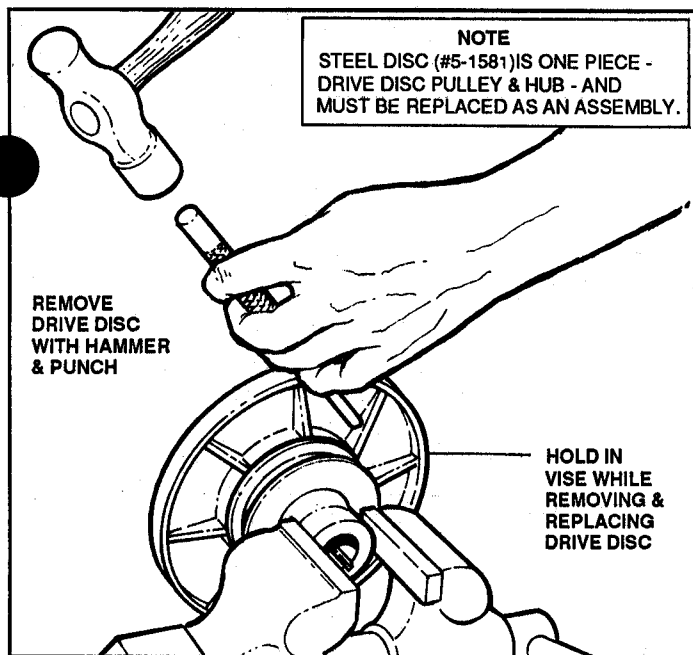

FIGURE 4.12
- To separate the drive disc from the pulley and hub, clamp hub in vise and lightly tap until disc turns free, then remove. See Figure 4.12.